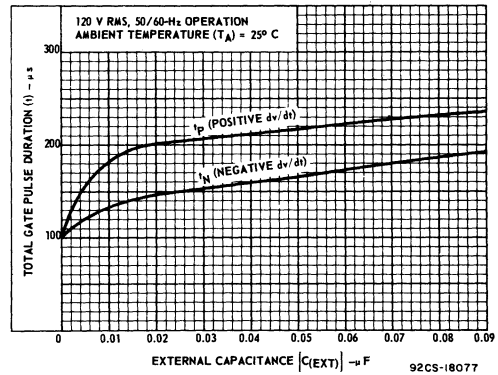

Fig.8b—Total gate pulse duration vs. external capacitance for CA3058, CA3059 and CA3079.
*Pulse duration in 50 Hz applications is approximately 15% longer than shown in Fig. 8b